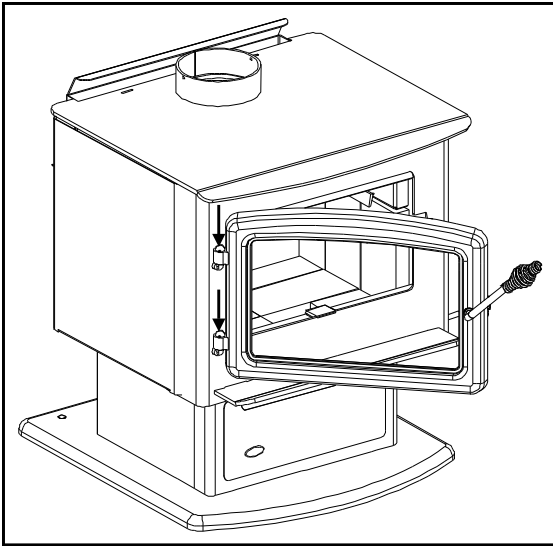

Figure 51: Installation Door onto Unit.
2. Place the door assembly on the two (2) hinge pins mounted on the body of the unit. Refer to Figure 51.